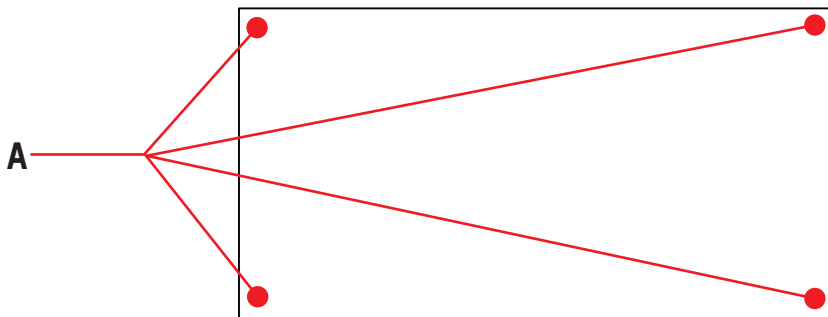
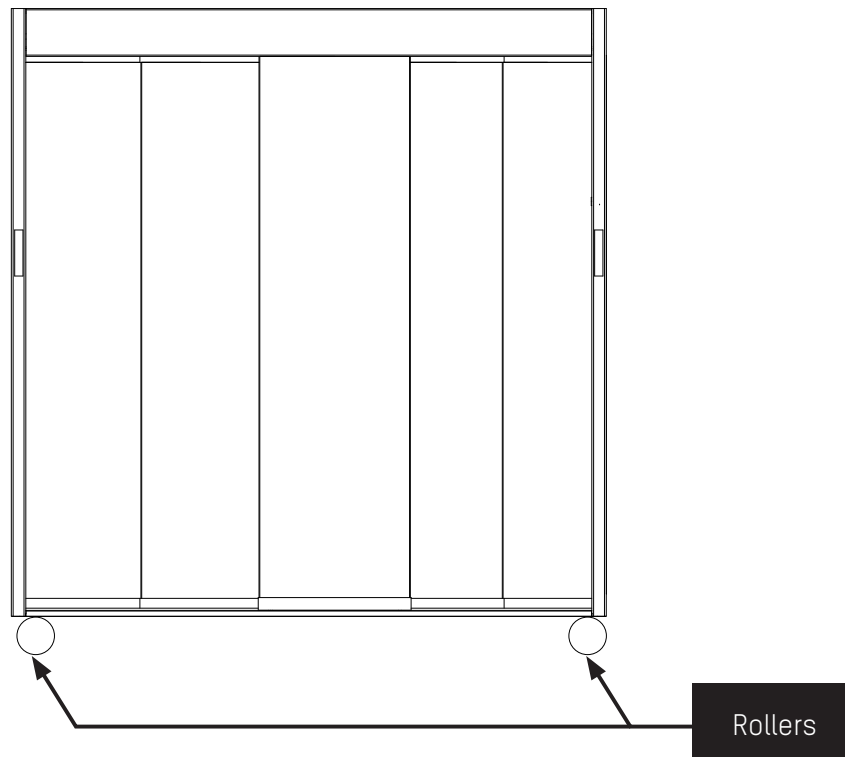

Fig. 17 - Positioning / Handling points
Fig. 18 - Positioning / Rollers
- The booth must be positioned at its final destination with the external side placed outwards, (Fig. 2 - External side view, page 12). A suitable crane with a capacity of minimum 2000 kg will have to be utilized in order to shift it properly, by some chains to hook to the four upper corners of the booth, the ones marked as "A" ( Figure 17). It is also possible to shift the booth by lifting it lightly with a crowbar to place some rollers under the same cabin. ( Figure 18).
- Put the security booth in the preset place arranging the outer side outwards (Figure 2-1 External side view) to move use a crane with a minimum load capacity of 1500 kg using chains hooked to the security booth four edges (A) (Fig. 17, page 37). If needed it is possible to move the cabin using a crowbar to lift it slightly and place the rollers under the bottom (Fig. 18, page 37).